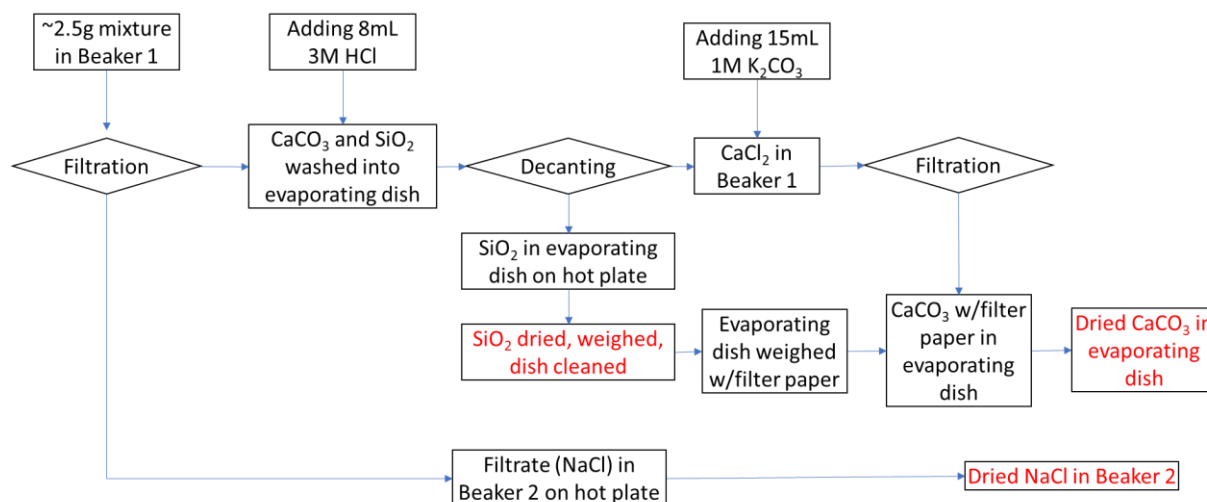

Figure 1
1. Review the whole procedure before starting (Figure 1). In the interest of saving time some steps are to be performed parallel with each other.